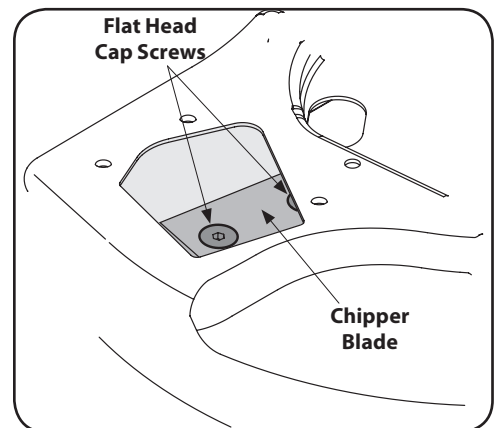

Figure 7-11
14. Using a 3/16" allen wrench, remove the flat head cap screws that hold the chipper blade to the impeller. These screws are accessible through the opening created when the chipper chute was removed earlier. See Figure 7-11.